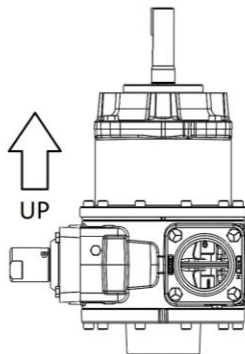

Figure 5 - Disassembly Orientation
3. Remove the four bearing cover capscrews (28), the bearing cover (27), and the bearing cover o-ring (26). Discard o-ring.
4. Set the pump on the outboard head, with the shaft facing up. See Figure 5. Provide adequate support to eliminate the possibility of tipping during disassembly/assembly.